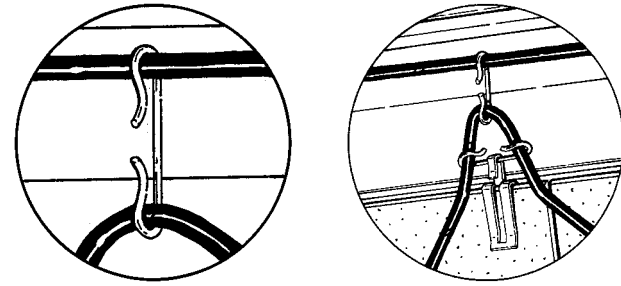

Figure 19. Sujete las pinzas a los canales
• **Figure 19. Attaching clips in gutters**
• **Route the cable in the gutter along a treated area of roofline.** Using a spacer, fasten the gutter cable to the bottom of each drip loop you have formed. See Figure 19. Keep the cable in the gutter tight and off the bottom of the gutter to prevent heat loss.